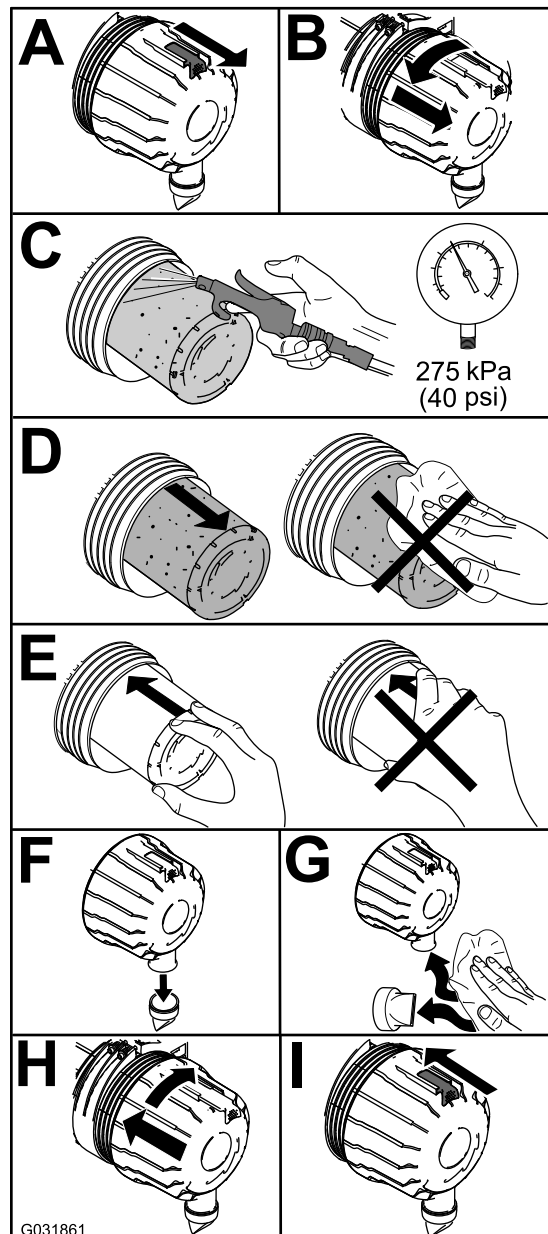

Figure 42
1. Replace the air cleaner (Figure 42).